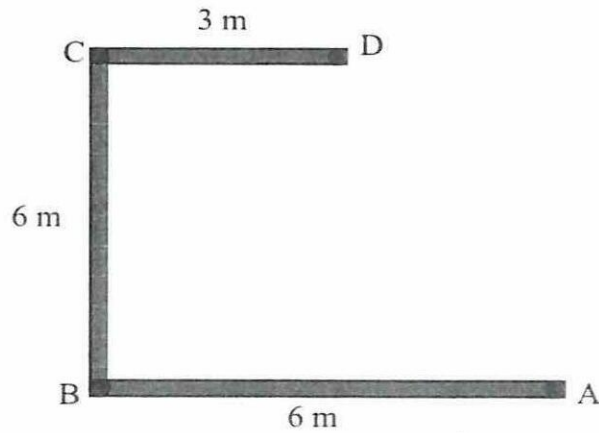

Figure Q5.1 Illustration of distance between point A, B, C and D
- (b) Point load with the magnitude of 100 kN, 200 kN and 300 kN act at point B, C and D respectively are shown in **Figure Q5.1**. By using Westergaard's equation, find the increase of vertical stress at a depth of 6 m below the point A. Refer to Figure APPENDIX A.1 for the value of influence factor.